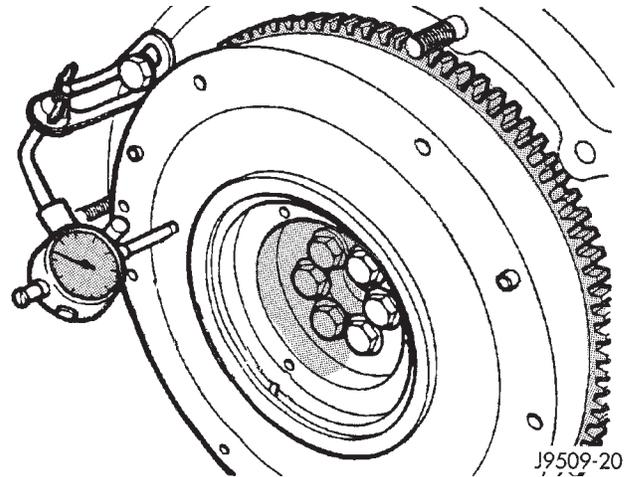

Fig. 14 Measuring Crankshaft End Play
(1) Attach dial indicator to engine block (Fig. 14).
(2) Move crankshaft toward front of engine and zero indicator.
(3) Move crankshaft toward the rear of engine and record measurement.